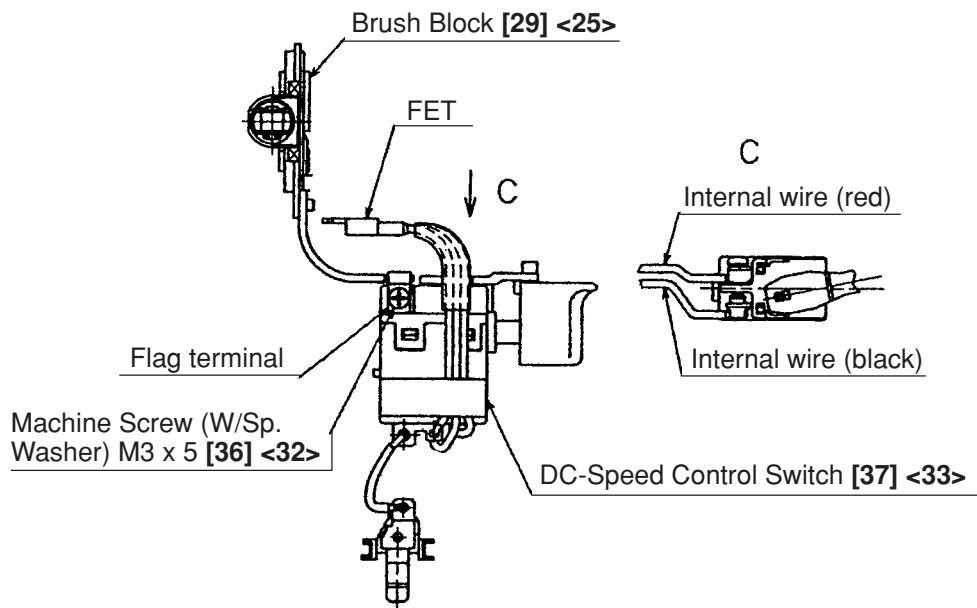

Fig. 6
(1) Reassembly of the housing assembly
- (a) Be sure to follow the wiring diagram (Fig. 6) for proper wiring.
- (b) When connecting the internal wires of the Brush Block [29] <25> to the DC-Speed Control Switch [37] <33>, fasten them with the Machine Screws (W/Sp. Washer) M3 x 5 [36] <32> paying attention to the direction of the flag terminal (Fig. 6).